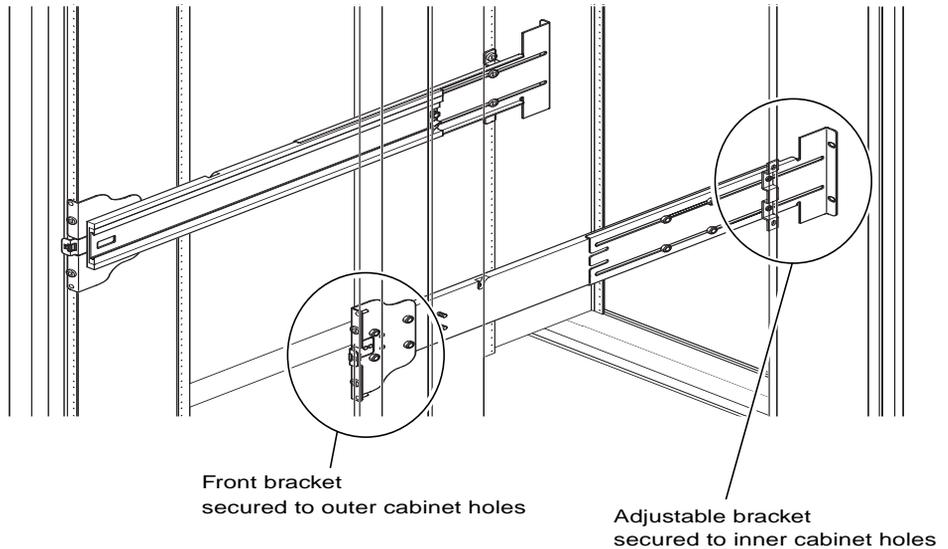

FIGURE 1-6 Installing the Slide Rails in a Sun Fire Cabinet
3. Insert the pins in the front bracket into cabinet holes 22 and 33 (FIGURE 1-6).
3. Insert the pins in the front bracket into cabinet holes 58 and 69 (FIGURE 1-6).